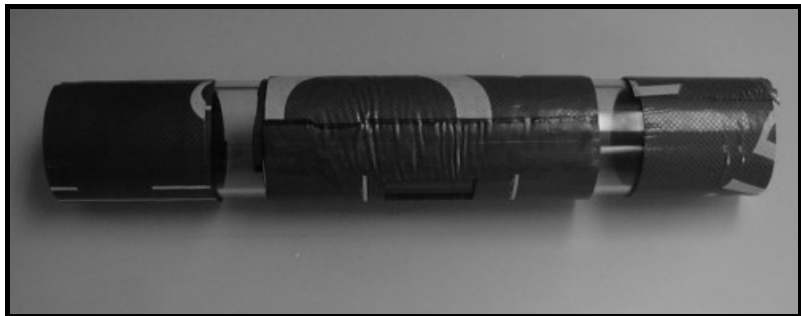

Figure 1-25: Completed DMP-1 Installation
12. Wrap each of these strips around the pipe on the outside edge of the clamping fixture, one upstream and one downstream. The completed damping material installation should appear similar to Figure 1-25 below.